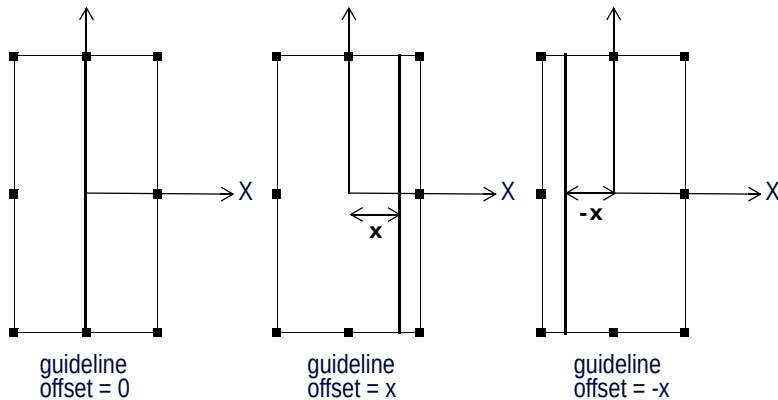

Figure 354 Line Finder — Guideline Offset
- See Figure 354 for an illustration of positive and negative **Offset** values.